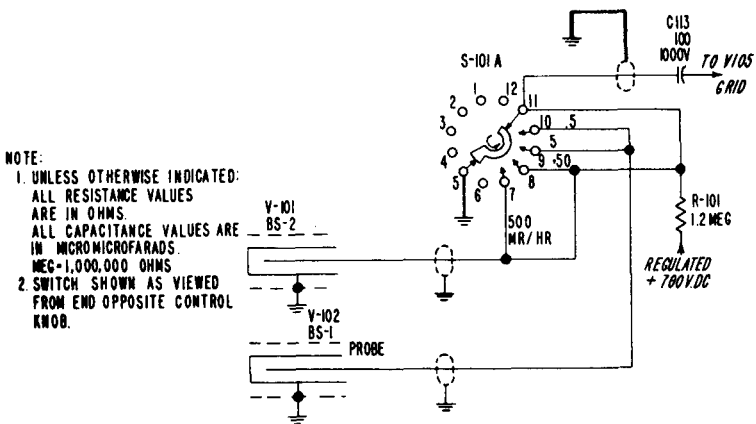

Figure 2-3. **Detector** Circuit
a. DETECTOR CIRCUIT. (See figure 2-3.)—The detector circuit consists of G-M tubes **V101** and **V102**, anode load resistor **R101**, coupling capacitors C1 13, and section **S101A** of range switch **S101**.